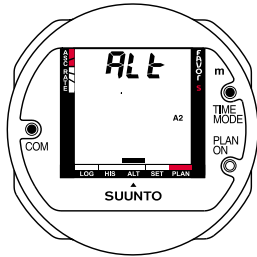

Fig. 4.10 PERSONAL/ ALTITUDE ADJUSTMENT SETTING, STEP 4
4. Connect the TIME/MODE and COM contacts to confirm this new personal/altitude adjustment mode (Fig. 4.10). The blinking will stop and the other mode indicators will disappear.